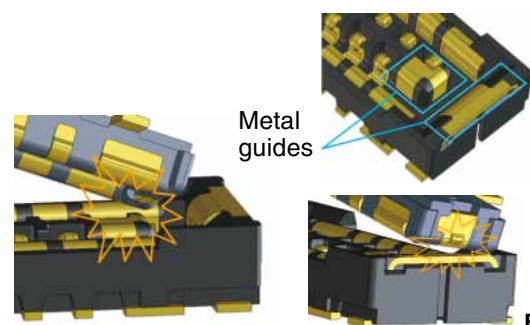

Fig.3
3. **The proprietary metal guide prevents the connector from being damaged against offset mating.** (Fig.3)